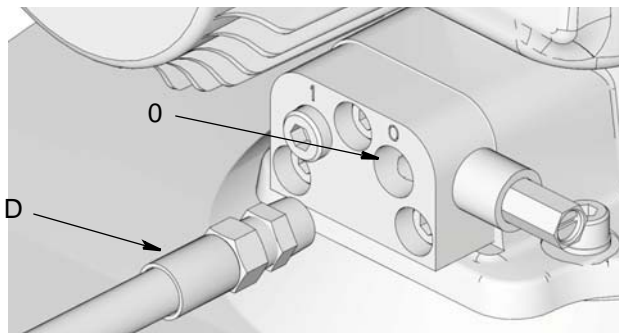

FIG. 53: Lubricant Outlet Connection
28. Connect the timer/controller (F) (user supplied, if used).
29. Connect High Pressure Lubricant Supply Line (D) to the Lubricant Output Connection (0) (FIG. 53) on the Vent Valve or Manifold.